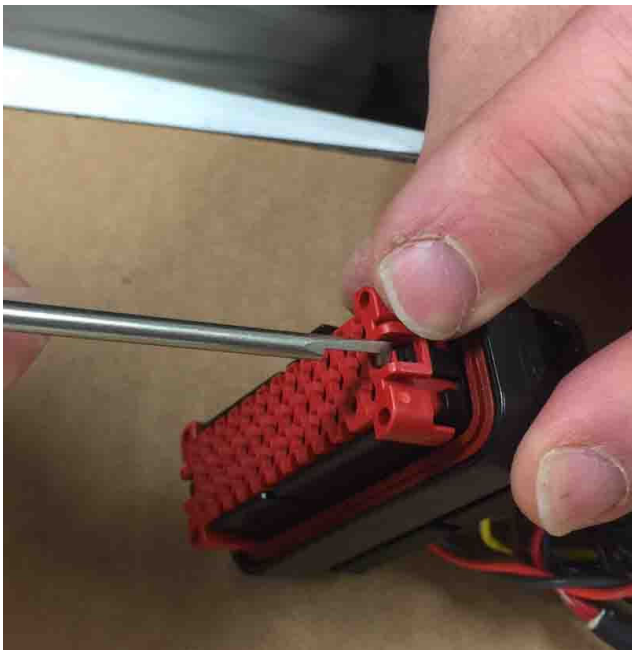

Fig. 32 – Capture release
7. While prying the black plastic tab away from red plastic pin capture portion of the plug, press the red piece up and away from the body of the plug. There will be a single click when the red plastic plug piece is lifted. This is an indication that the pin capture piece is in the correct orientation. (Fig. 32) Do this procedure for both sides of the plug.